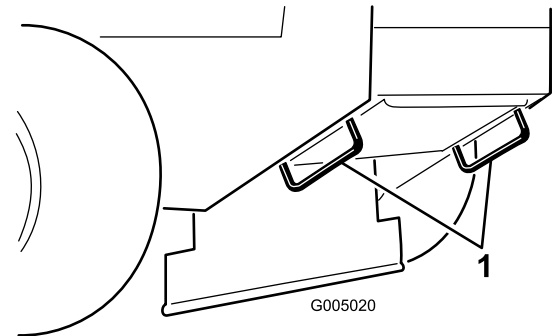

Figure 10
5. Use the metal tie down loops on the machine to securely fasten the machine to the trailer or truck with straps, chains, cable, or ropes (Figure 10).